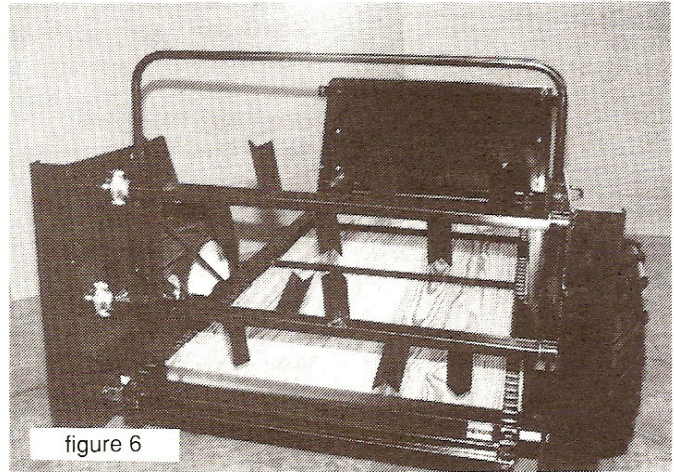

figure 6
10. Mount beater bar assemblies using flanged wood bearings (figure 6). The top beater is the one with the spreader tines parallel on top and bottom of the bar. The bottom beater has the alternate spreader tines. To install, slide the square end of the beater bar assembly over the square drive stub projecting from the beater drive transmission. Slide flanged wood bearings over opposite end of beater bar. Align holes on bearing flange with holes on drag chain transmission. Insert $5/16 \times 1$ inch hex bolts, nuts, and lock washers, then tighten.